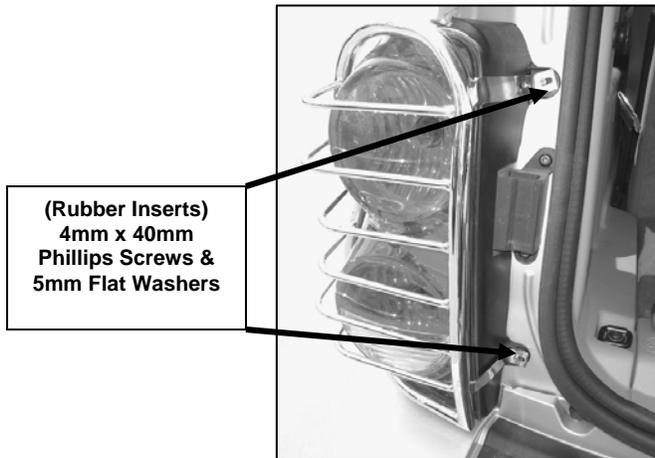

Figure 4
- Secure the Taillight Guard assembly to the previously inserted rubber inserts using (2) 4mm x 40mm Phillips Screws and (2) 4mm Flat Washers (**Figure 4**). Hand tighten at this time.